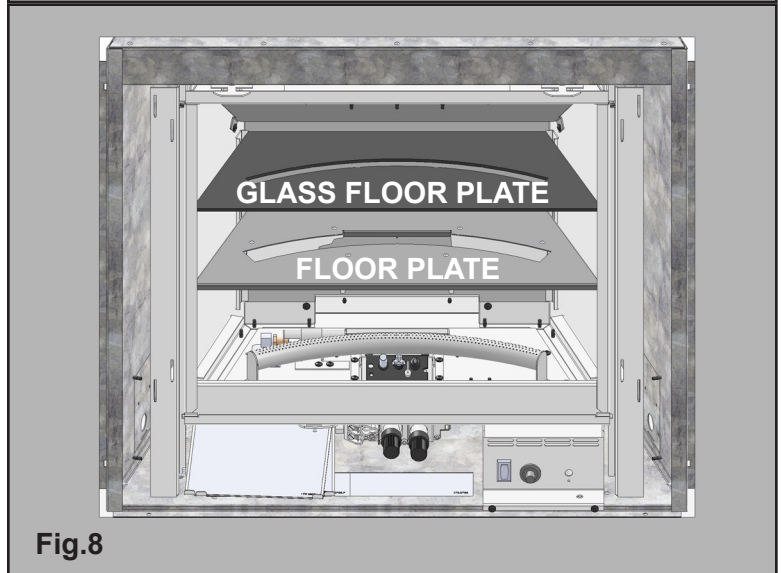

Fig.8
- Remove the glass floor plate and set it aside. (**Fig.8**)
- Remove the floor plate assembly and set it aside.(**Fig.8**)